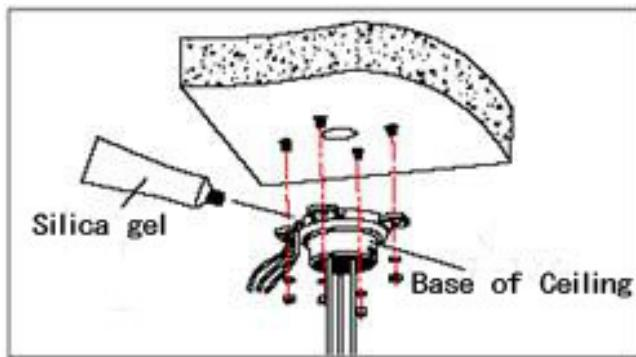

Fig 13
- As shown in fig 13, at first unscrew the M4 screw at the side of the base of ceiling and split the base of ceiling and boom. Then make the three groups of cables of power, video/control and alarming into the side recessing seal groove of the ceiling connector bottom and through the core hole of the base of ceiling mounted. Fix the base of hang ceiling on the ceiling board.